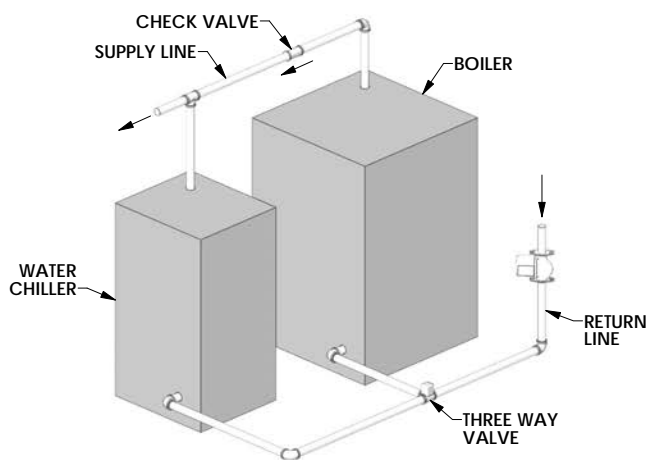

Figure 3.5: Piping to Isolate Boiler from Chilled Medium on Chiller Systems
6. If the boiler is to be used in conjunction with a refrigeration system, the chilled medium shall be piped in parallel with boiler and proper valves applied to prevent the chilled medium from entering the boiler. Refer to Figure 3.5.